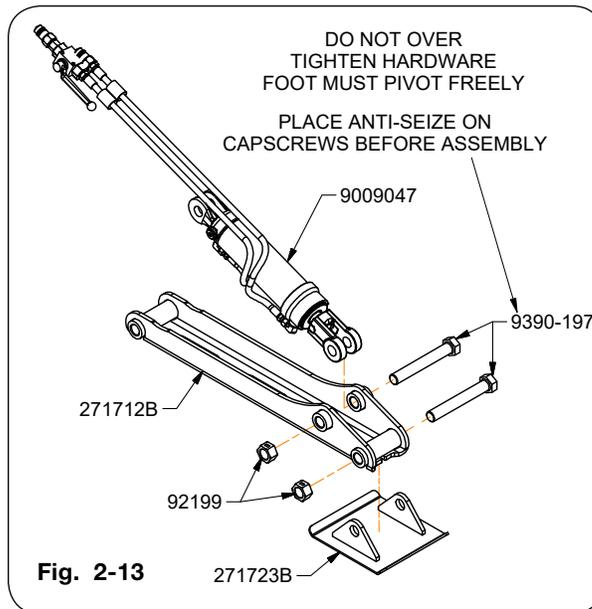

Fig. 2-13
2. Assemble the cylinder (9009047) and jack foot (271723B) to the jack weldment (271712B) as shown in figure 2-13 using 1"-8UNC x 7" capscrews (9390-197) and 1"-8UNC locknuts (92199).
3. Tighten 1" hardware to jack leg weldment and allow the cylinder and jack foot to freely pivot. (Fig. 2-13)
4. Using a safe lifting device rated for 100 lbs., attach the jack weldment (271712B) to the lower tabs behind the hitch plate on the tongue, shown in figure 2-13 using 1"-8UNC x 7" capscrews (9390-197) and 1"-8UNC locknuts (92199).